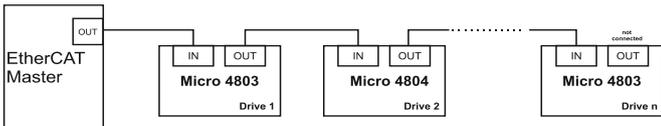

Figure 3-74 EtherCAT network linear topology
- *Figure 3-74* for a visual representation of the linear topology.